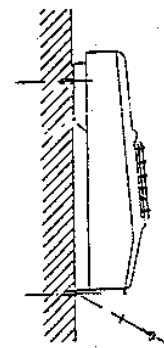

Figure 2
5. Hang the heater on the hooks and then fasten the bottom of the heater to the wall as shown in Figure 2, inserting the screw, with a washer under its head, into the bottom plastic anchor.